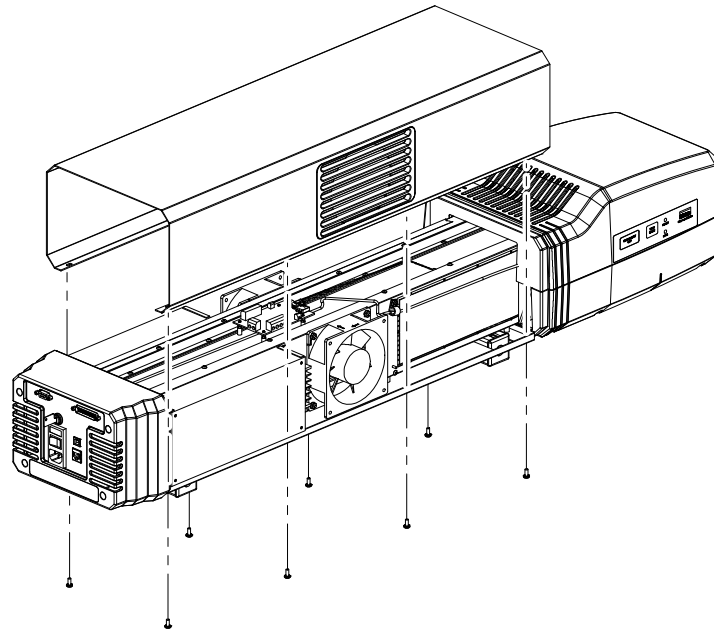

Figure 5 Removal of the Fenix Flyer body cover
- A2** See Figure 5 and loosen the Fenix Flyer body cover by removing eight (8) Phillips head screws located along the bottom edges of the chassis. Remove the cover by spreading the left and right sides apart far enough to clear the internal chassis as you lift it off.